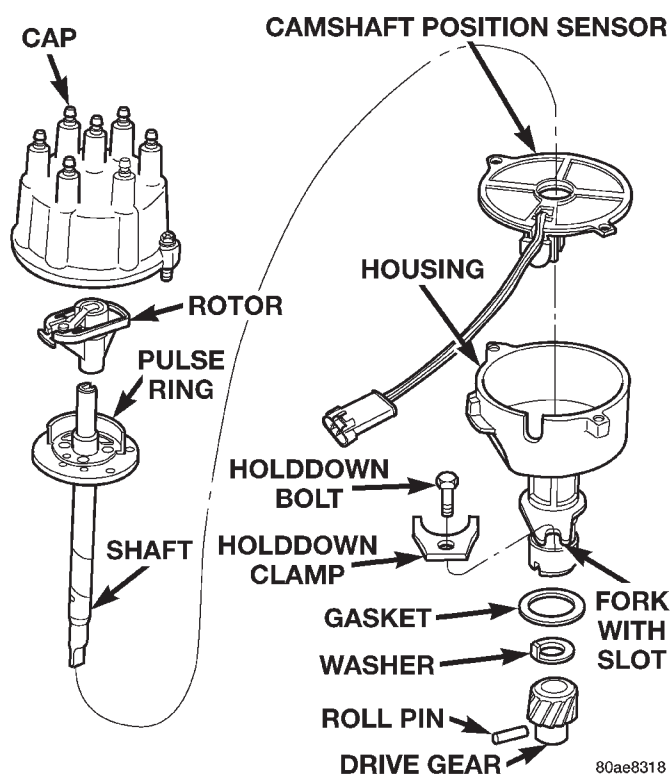
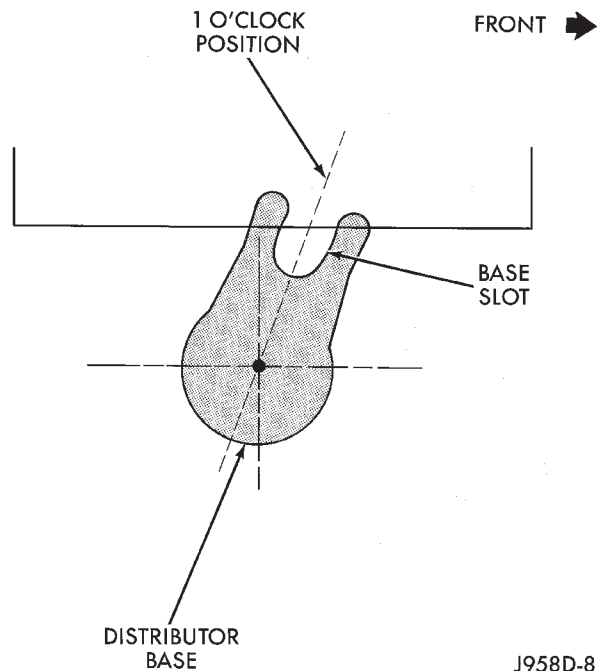
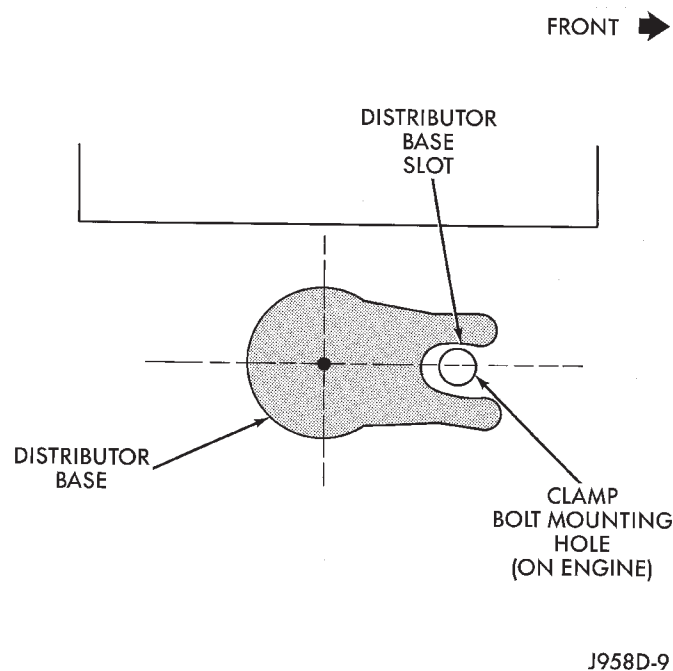
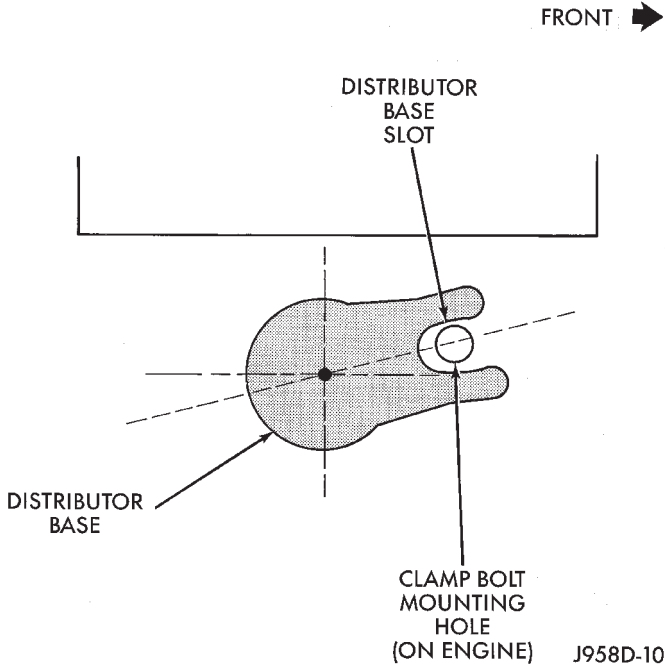

Fig. 31 Distributor—2.5L Or 4.0L Engines—Typical
Fig. 36 Distributor Pre-position—All Engines
Fig. 37 Distributor Engaged Position—2.5L 4-Cylinder Engine
Fig. 38 Distributor Engaged Position—4.0L 6-Cylinder Engine
The camshaft position sensor is located in the distributor on all engines (Fig. 31). For removal/installation procedures, refer to Camshaft Position Sensor. Distributor removal is not necessary for sensor removal.
Refer to (Fig. 31) for an exploded view of the distributor.
A fork with a slot is supplied on the bottom of the distributor housing where the housing base seats against the engine block (Fig. 31). The centerline of the slot aligns with the distributor holddown bolt hole in the engine block. Because of the fork, the distributor cannot be rotated. Distributor rotation is not necessary as all ignition timing requirements are handled by the powertrain control module (PCM).
(8) Clean distributor mounting hole area of engine block.
(9) Install new distributor-to-engine block gasket (Fig. 31).
(10) Install rotor to distributor shaft.
(11) **2.5L 4-Cylinder Engine:** Pre-position distributor into engine while holding centerline of base slot in 1 o'clock position (Fig. 36). Continue to engage distributor into engine. The rotor and distributor will rotate clockwise during installation. This is due to the helical cut gears on distributor and camshaft. When distributor is fully seated to engine block, the centerline of base slot should be aligned to clamp bolt mounting hole on engine (Fig. 37). The rotor should also be pointed slightly past (clockwise of) 3 o'clock position.
4.0L 6-Cylinder Engine: Pre-position distributor into engine while holding centerline of base slot in 1 o'clock position (Fig. 36). Continue to engage distributor into engine. The rotor and distributor will rotate clockwise during installation. This is due to the helical cut gears on distributor and camshaft. When distributor is fully seated to engine block, the centerline of base slot should be aligned to clamp bolt mounting hole on engine (Fig. 38). The rotor should also be pointed at 5 o'clock position.